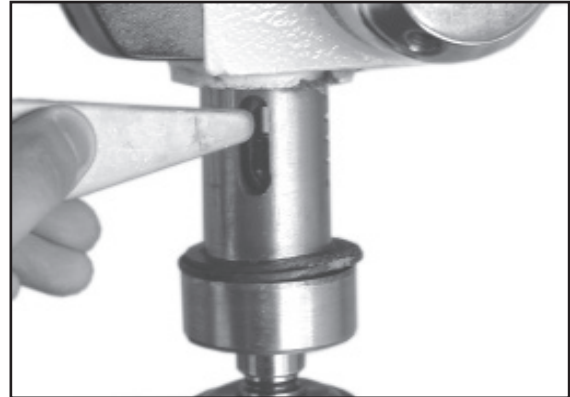

Figure 15
5. Insert the Key-drift provided into the slot. (Fig.15)